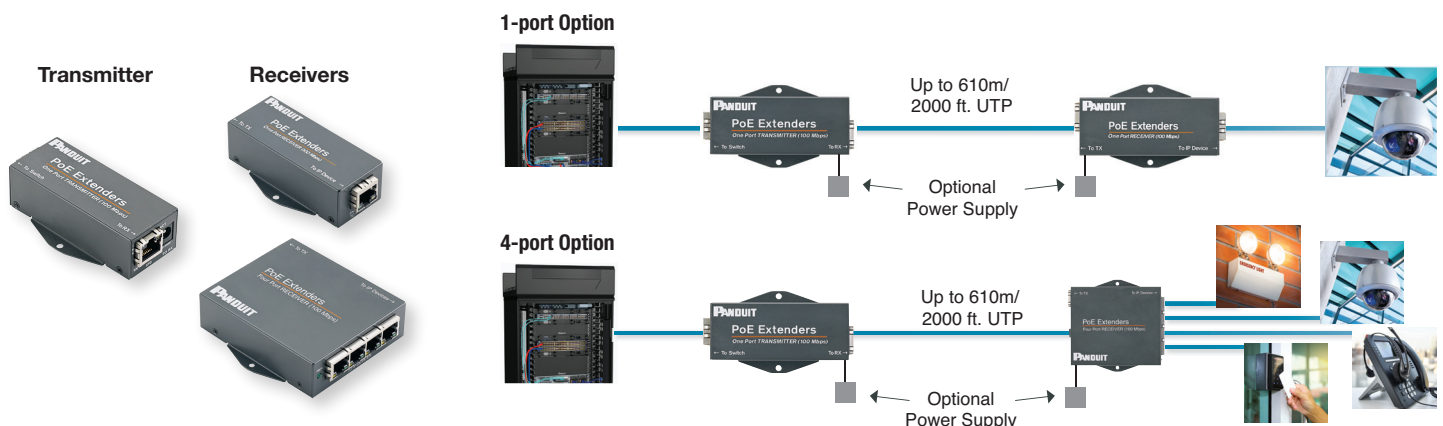

Figure 1: Panduit PoE Transmitter and Receivers, as well as an exemplary deployment example for both the 1-port and 4-port receivers.
To extend power and data beyond 100 meters, each link will require (1) transmitter and (1) receiver. There is only one type of transmitter, but two types of receivers: a 1-port and 4-port. An exemplary deployment is shown in Figure 1.